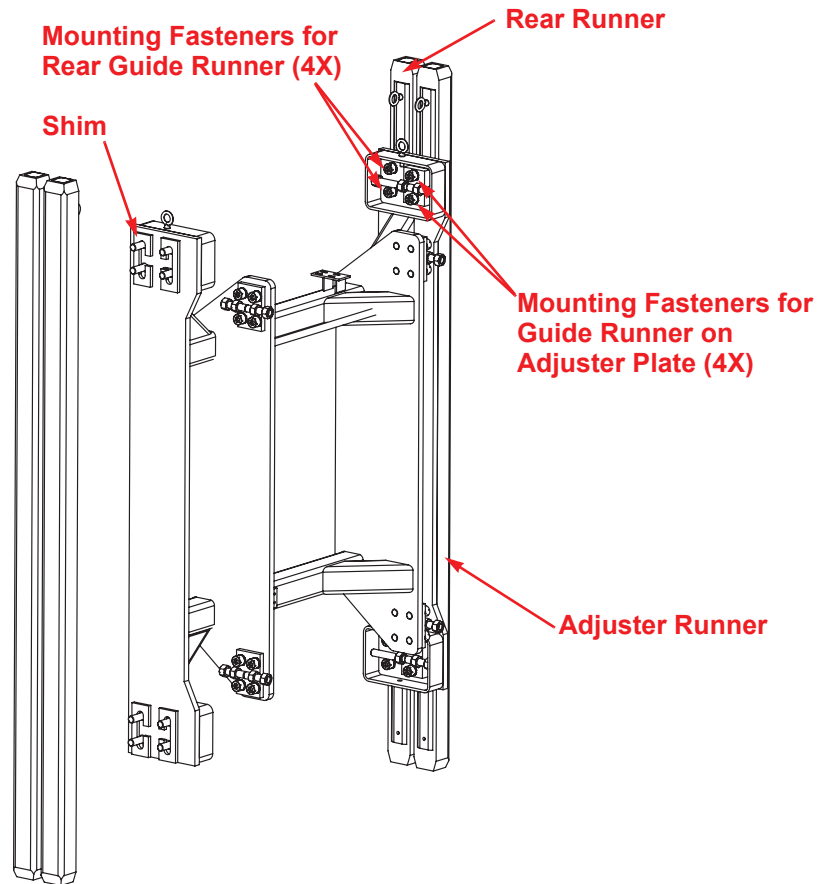

Figure 1: Guide runner assembly (fixed track)
1. Inspect the mounting fasteners on all guide runners (see Figure 1 below and Figure 2 on page 2).
3. The number of shims installed (See Figure 1 on page 1) will affect the thread engagement of the bolts into the runner. The bolt thread should have at least 1.5" thread engagement in the runner. If the shims on the rear runner are more than 1.25" thick, use longer bolts. If the shims on the adjuster plate sides are more than 3/4" thick, use longer bolts.